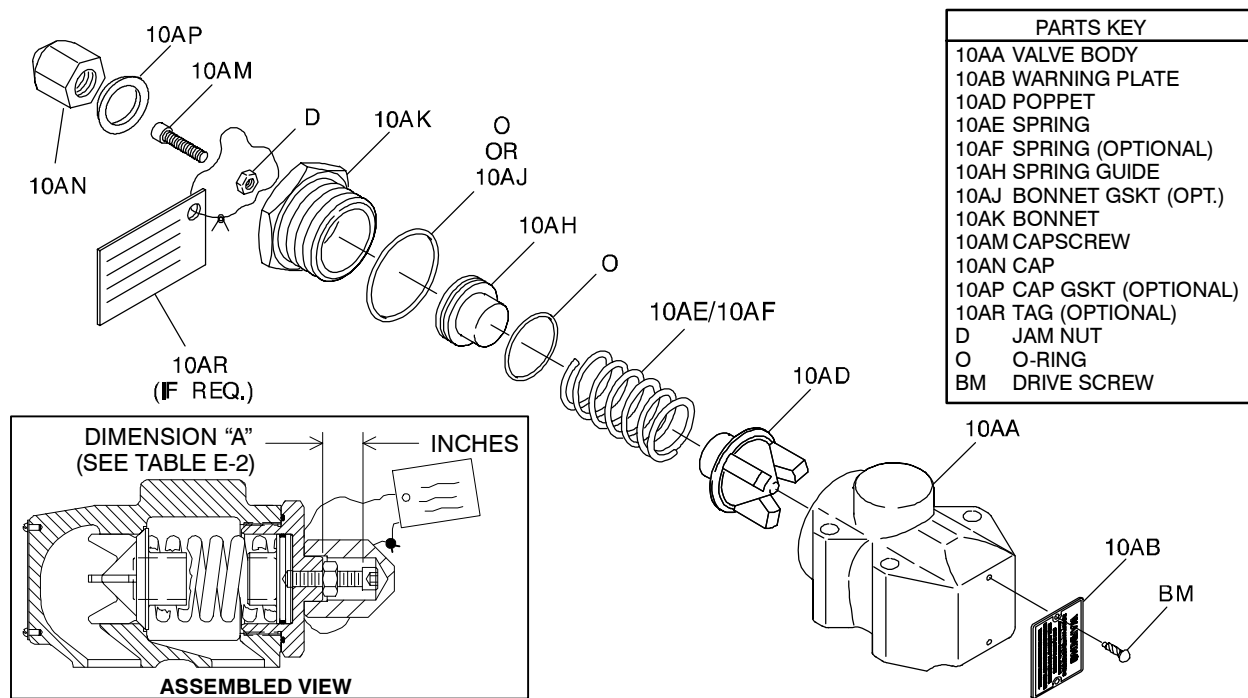

Figure E-7. Pressure Relief Valve Assembly
(Figure E-7)
Install the jam nut (D) on the adjustment capscrew (10AM) and thread the capscrew into the bonnet until the desired height ("A", Figure E-7) is reached. Refer to the separate Parts List accompanying your pump and determine the hydraulic size (D,G,J,N, etc.) and spring option code (STD, 25D, etc.) for your pump. See Table E-2 and adjust the capscrew (10AM) to the proper "A" dimension for the desired cracking pressure.